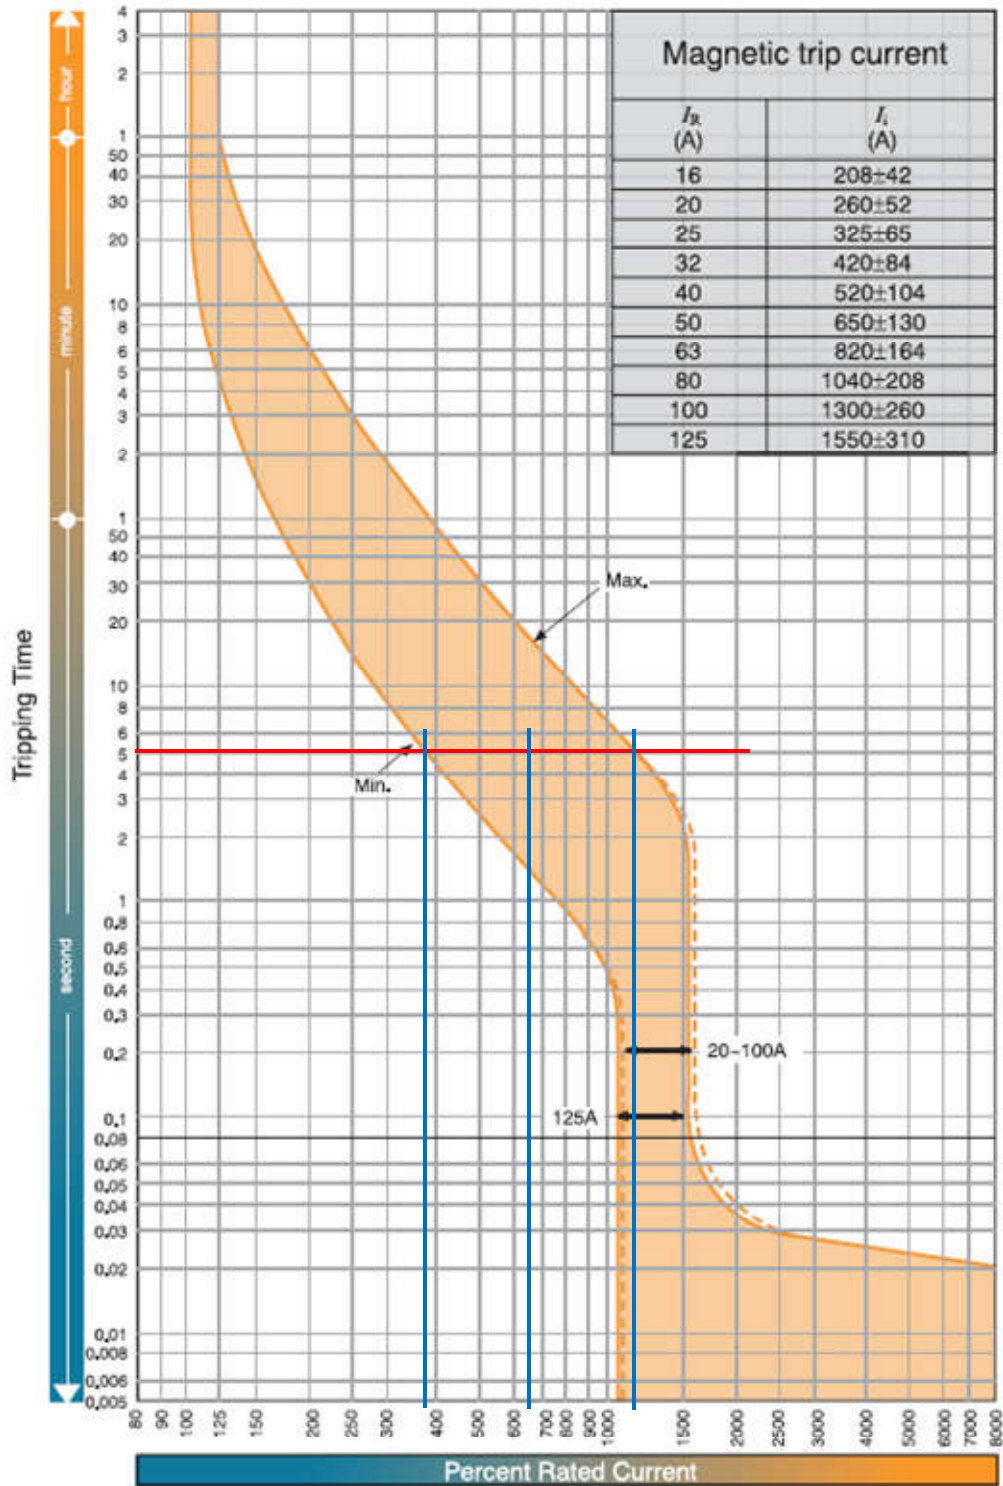

figure 5 – www.nhp.com.au/tembreak2/manuals/asp
2. Determine from manufactures data (figure 5) the current I_a